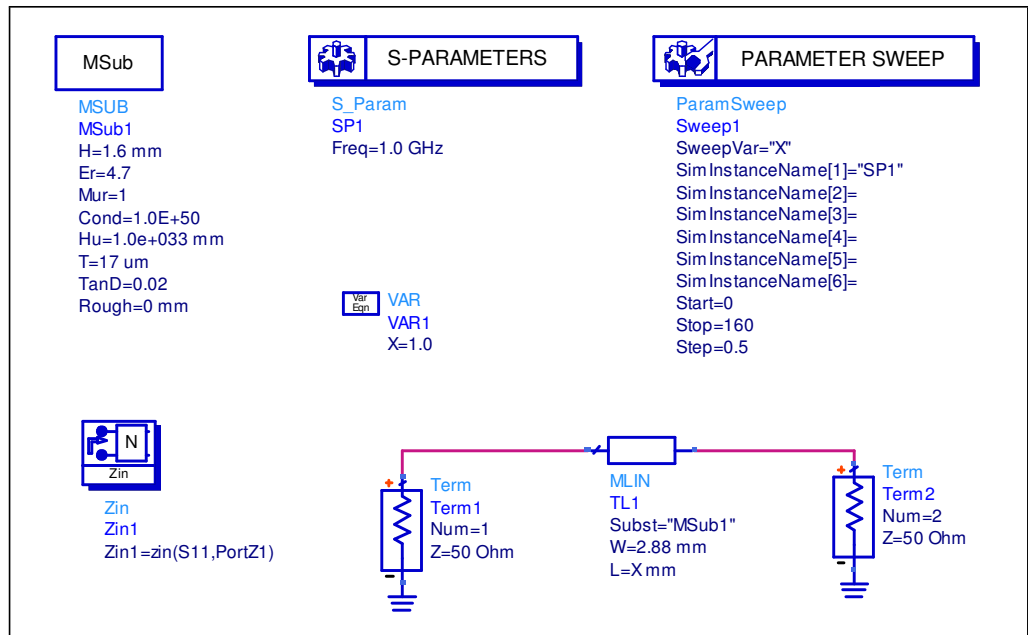

Figure 7 - 50 ohm transmission line.
1. Draw a  $50\Omega$  transmission line terminated by  $50\Omega$  load, as shown in Figure 7.
Table-2, list for Figure 7